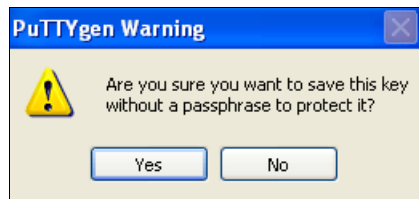

Figure A-5 Confirm the security warning
7. You receive a warning message, as shown in Figure A-5. Click **Yes** to save the private key without a passphrase.